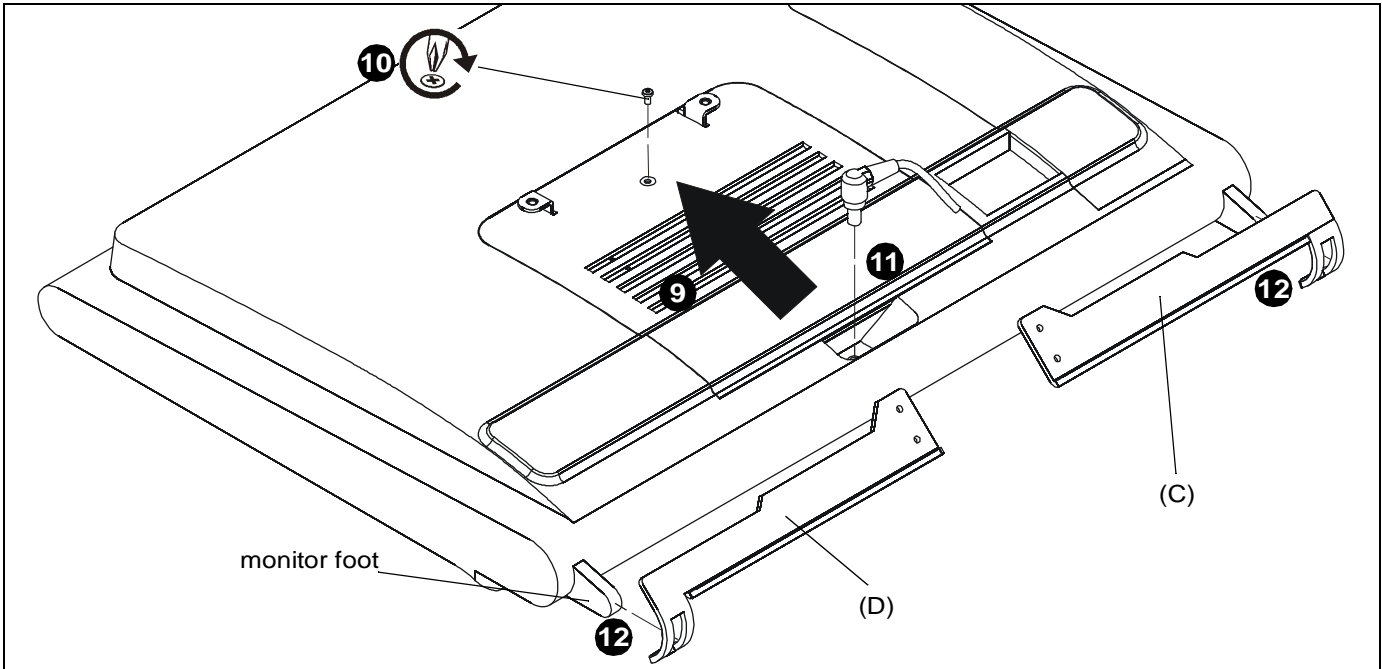

Figure 4
9. Replace back cover on top of adapter. (See Figure 4)
10. Secure back cover by reinstalling screw removed in Step 4. (See Figure 4)
11. Plug in power cord to monitor. (See Figure 4)
12. Insert monitor feet into outside slots on hook brackets (C and D). (See Figure 4)